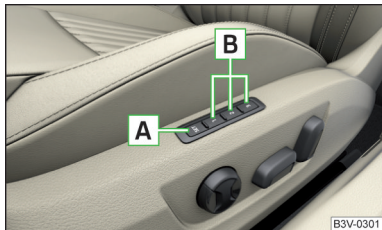

Fig. 67
Among the memory buttons **B** on the driver's seat, a setting for the driver's seat and exterior mirror position can be saved » Fig. 67.
- Hold down the SET **A** » Fig. 67 button and within 10 seconds press the desired memory button **B** at the same time. Storing is confirmed by an acoustic signal.
- Turn on the ignition and press the desired memory button **B** » Fig. 67.